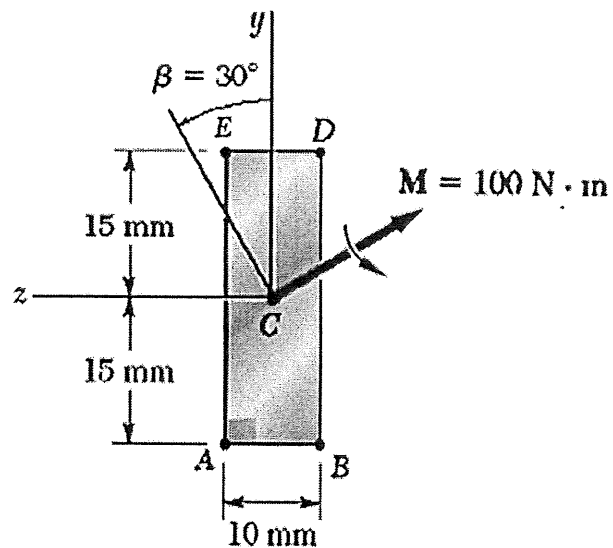

Figure 7
- a) The couple  $M$  is applied to a beam of the cross section in a plane forming an angle  $\beta$  with the vertical shown in Figure 7.